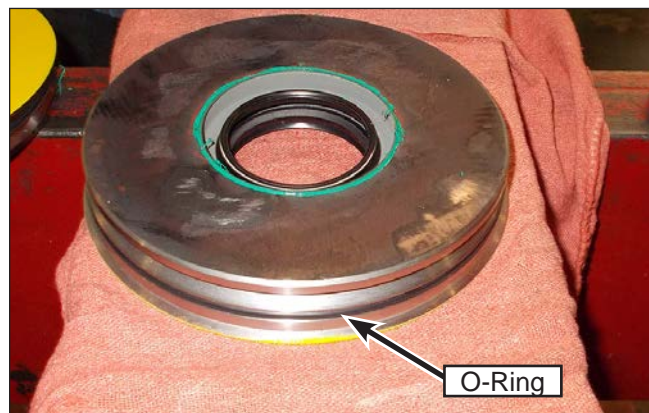

Figure 106: O-Ring Installation.
4. Install a new O-ring (Figure 106) onto the seal plate. Lubricate the O-ring with O-ring lubricant.